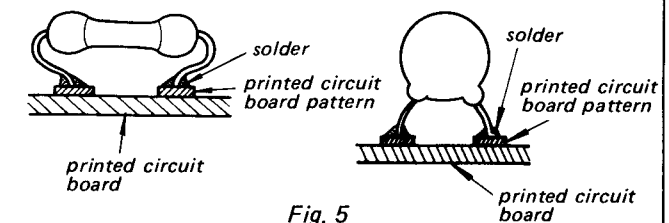

Fig. 5
4. Use lead type resistors or capacitors to replace the MELF components. These replacements may be mounted either with short leads (see Fig. 5), or by covering a lead with tubing (see Fig. 6).